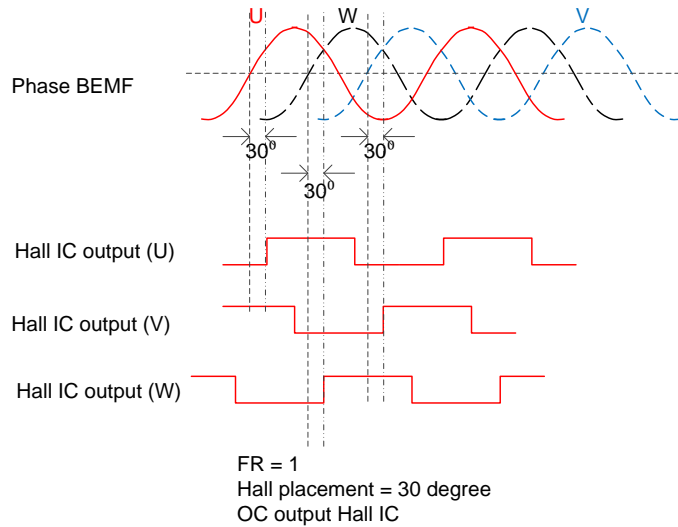

**Figure 26. Correspondence Between Motor BEMF and Hall Signal (FR = 1, 30° Placement)**
3. Phase U is leading phase W by 120°, phase W is leading phase V by 120°. The Hall signal positive output is 30° lagging of respective phase BEMF. Choose FR = 1 and 30° placement option (see Figure 26).
6. Turn the rotor manually in clock-wise direction. If the waveform on probe-1 (U-phase) is leading probe-2 (terminal-B) by 120°, name the terminal-B as phase W and terminal-C as phase V. Else if waveform on the probe-2 is leading probe 1 (U) by 120°, terminal-B as V, terminal-C as W. At this stage all three phases of the motor are identified.
9. After phase UVW and Hall UVW positive negative are identified, manually rotate the motor again, check if the result matches Figure 24 and Figure 25 (0° placement) or Figure 26 and Figure 25 (30° placement).